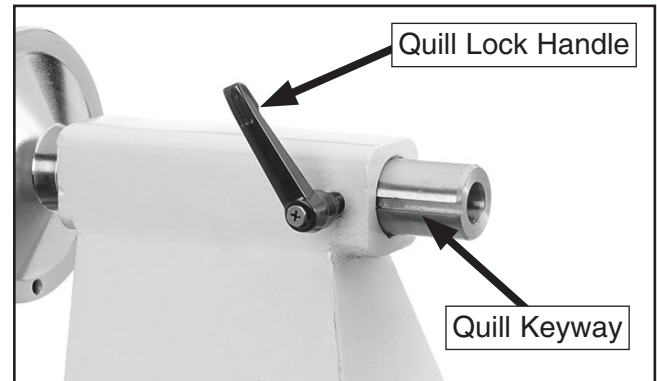

Figure 22. Quill lock handle aligned with quill keyway.
5. Make sure center of quill lock handle is aligned with quill keyway to ensure tailstock center and quill will not freely rotate under load (see **Figure 22**).